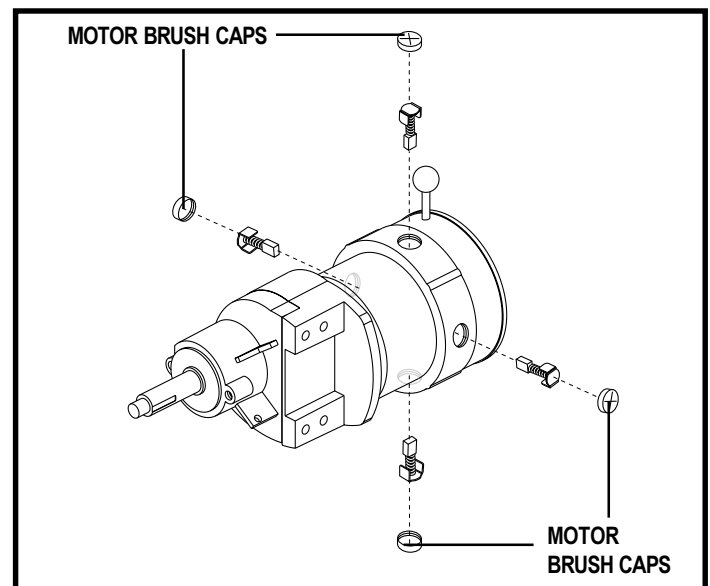

Figure 23. Motor
7. Unscrew the motor brush caps. See figure 23.